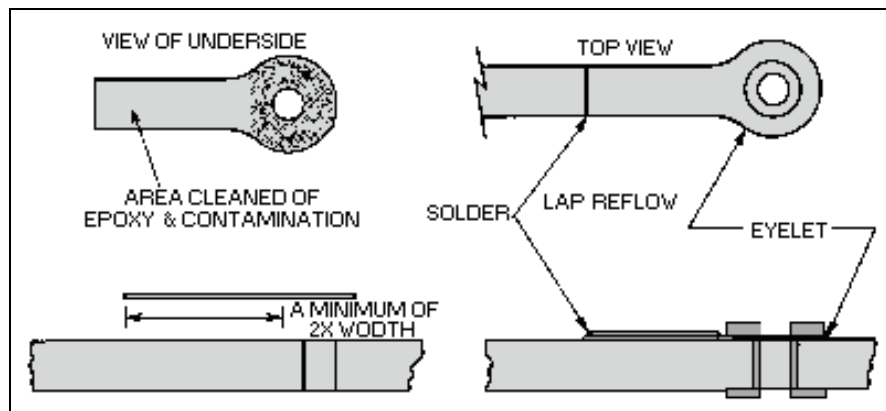

Figure 3-25.—Replacement of damaged termination pad.
**REPLACING THE TERMINATION PAD.**—Many times the termination pad, as well as part of the conductor, is missing on the board. In these cases, a replacement pad is obtained from a scrap circuit board. Refer to figure 3-25 as you study each step.